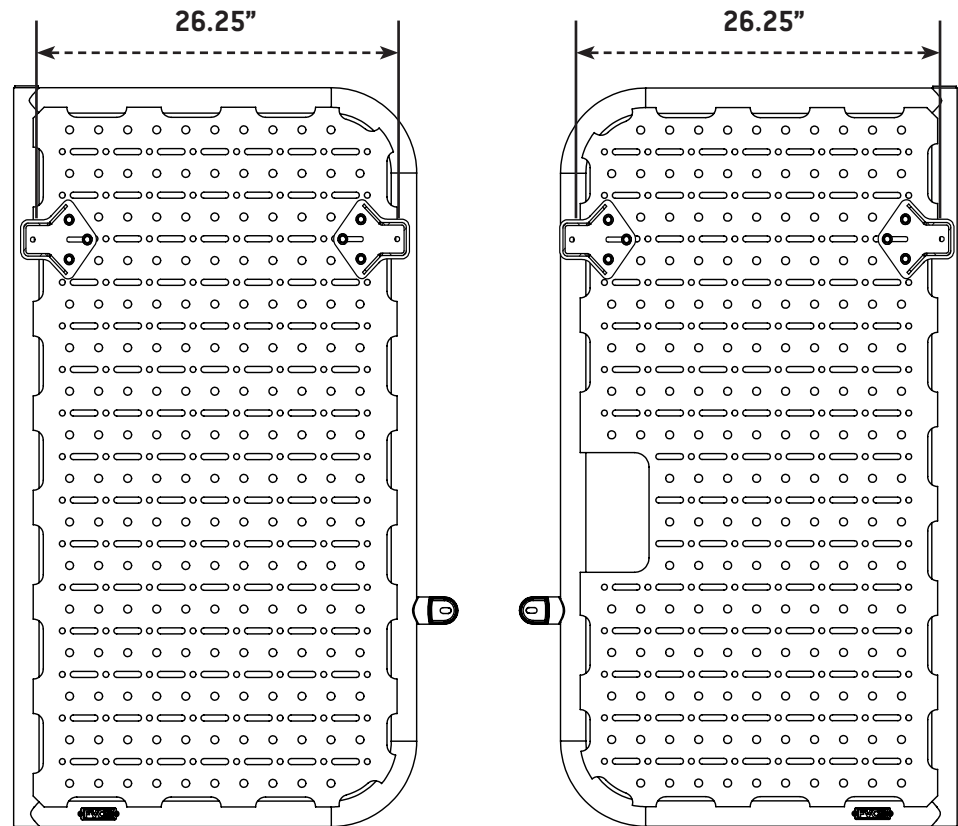

FIG 4
**2.1c Widest Possible Install Width for Posts in the Horizontal Position:** See FIG 4 for largest width between posts for the Driver and Passenger Side Rear Door Platforms.
**2.2c Widest Possible Install Width for Posts in the Vertical Position:** See FIG 4 for largest width between posts for the Driver and Passenger Side Rear Door Platforms.